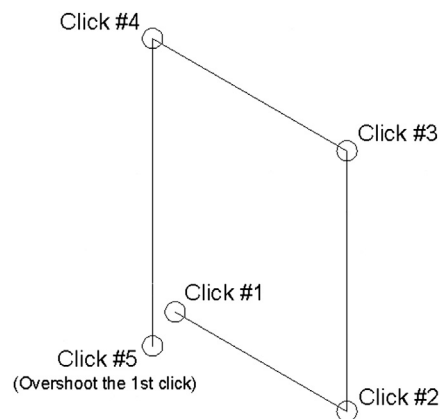

FIGURE 20.4
- Step 5.** Draw straight lines (as they should be with Ortho) of any size and continue drawing until you have the front face of a box. Very important: Do not try to connect the final line to the first line; you will never get it exactly right. Instead overshoot and click after passing it by, as shown in Figure 20.4.